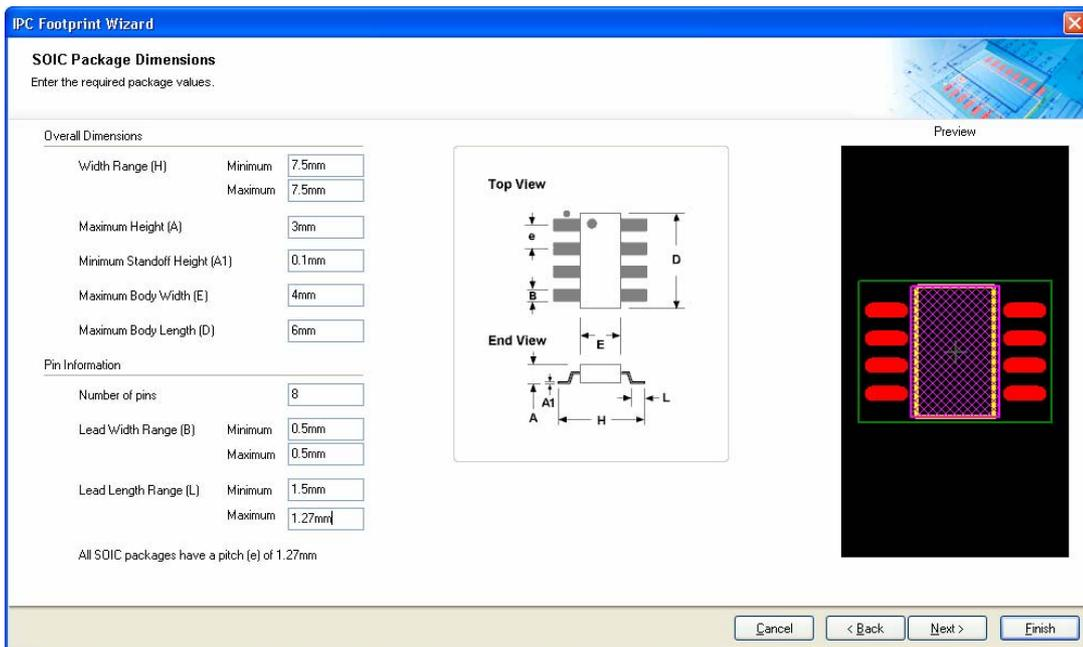

Figure 8. SOIC package dimensions
7. Refer to information in Figure 8 for dimensions. Note that it will be created with 8 round-ended pads at this point if we finish the wizard.